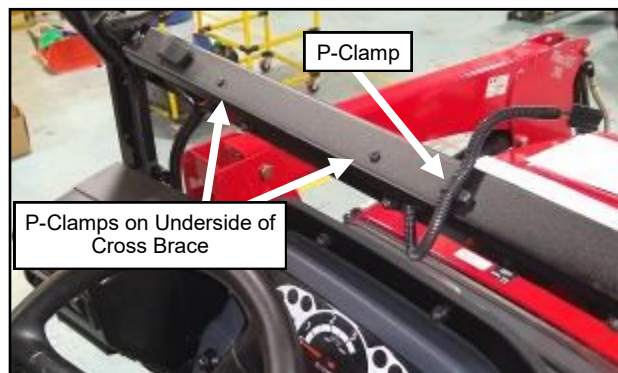

Fig. 12.1 (Attach Main Harness To Cowl)
- 12.1** Attach the main power wire harness to the top of the cross brace, about 6" from the end of the windshield wiper motor connector, using a P-clip and hardware. The connector end should be outside the cab with the rest of the harness on the inside. See Figure 12.1.
- 12.3** Attach the harness to the under side of the cowl with the supplied P-clamps & hardware listed below. See Figure 12.1.